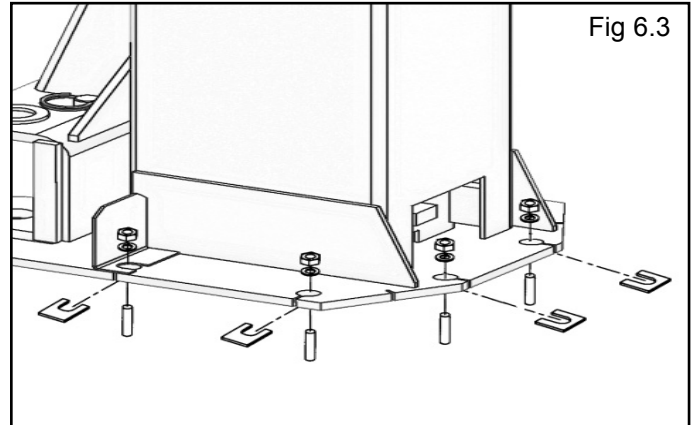

Fig 6.3
5. If shimming is required, insert the shims as necessary under the base plate so that when the anchor bolts are tightened, the columns will be plumb. (See Fig. 6.3)